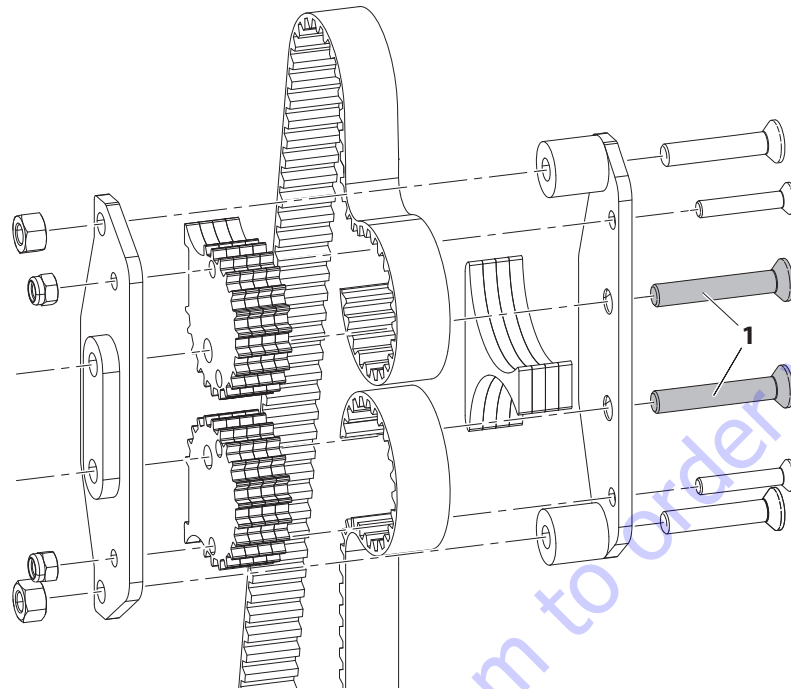

Figure 3-17. Belt Clamp Assembly - Ecolift
- d. If replacing belt, disassemble the belt clamp assembly and install new belt. (See Figure 3-17.)